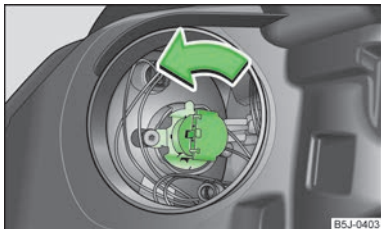

Fig. 149
- Turn the connector with the bulb in **anti-clockwise** direction up to the stop » Fig. 149 and remove it.